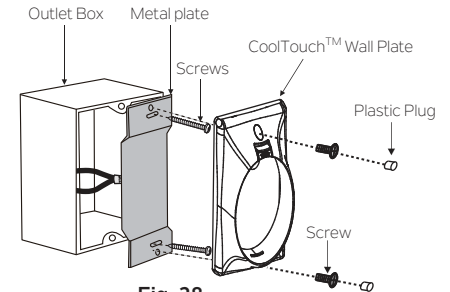

Fig. 28
**Step 2.** Install the metal plate and the CoolTouch™ wall plate to the existing wall outlet box with 2 screws provided. **(Fig.28)**